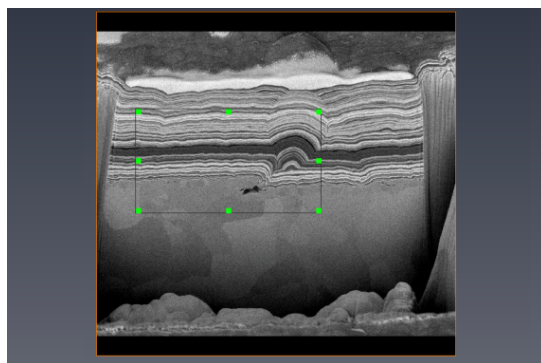

Figure 8.81: Mask definition with box tool for alignment.
- Drag the green corners to define a mask as displayed on figure 8.81.